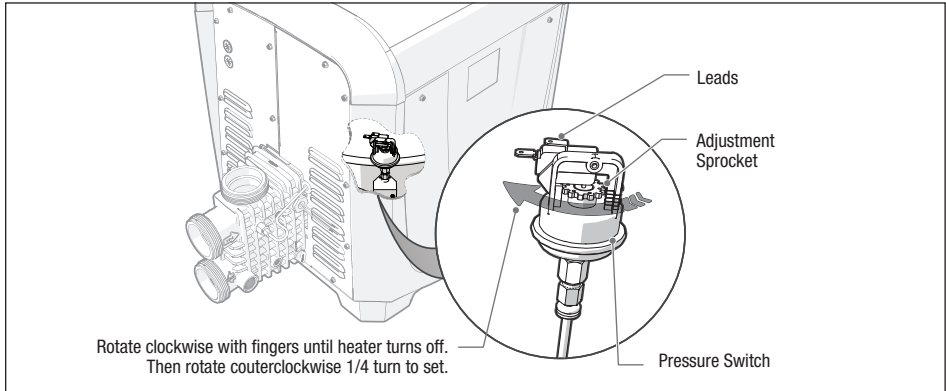

Figure 13. Water Pressure Switch Adjustment
- Remove the side panel to gain access to the water pressure switch. See *Figure 13*.
- Slowly turn the pressure switch adjustment sprocket counterclockwise one-quarter turn. The heater should come back on. See *Figure 13*.